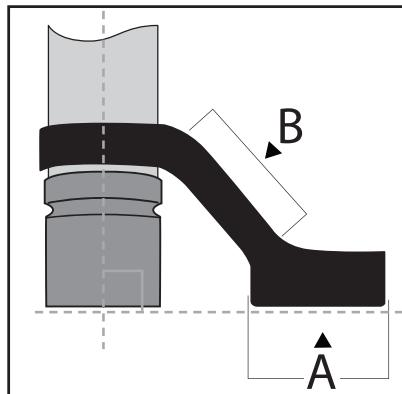

Figure 2
**Reaction bar must be properly installed and used to minimize hazards due to reaction torque.** See Figure 2. Loss of tool control and injury can result if reaction bar is not used.
- Torque reaction bar must be installed with the center of the reaction bar and nut (fastener) perpendicular to the center axis of the tool. See Figure 2.
- Only react torque on maximum surface of the reaction bar. See Figure 2, A.
- Do not react torque on other surfaces of the reaction bar. See Figure 2, B.